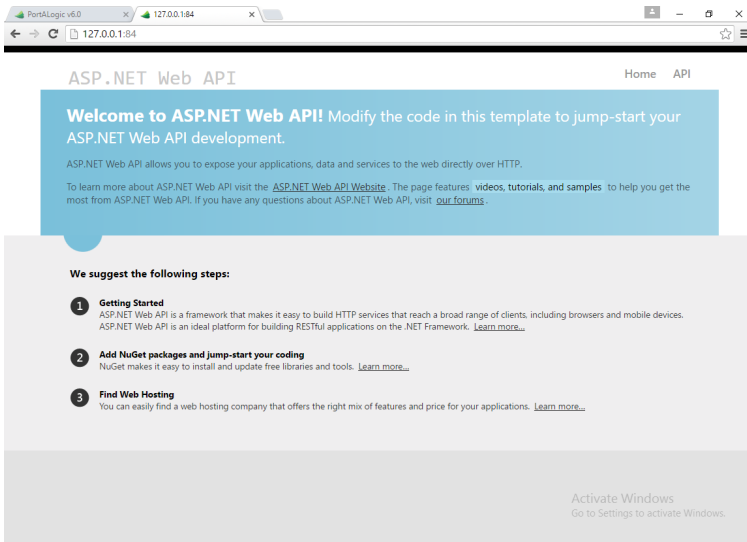

Figure 19: ASP.NET Web API Successful
- i. In a Browser, navigate to <http://127.0.0.1:84> (use the correct port number if it was changed in step 12. The results should look like Figure 19.